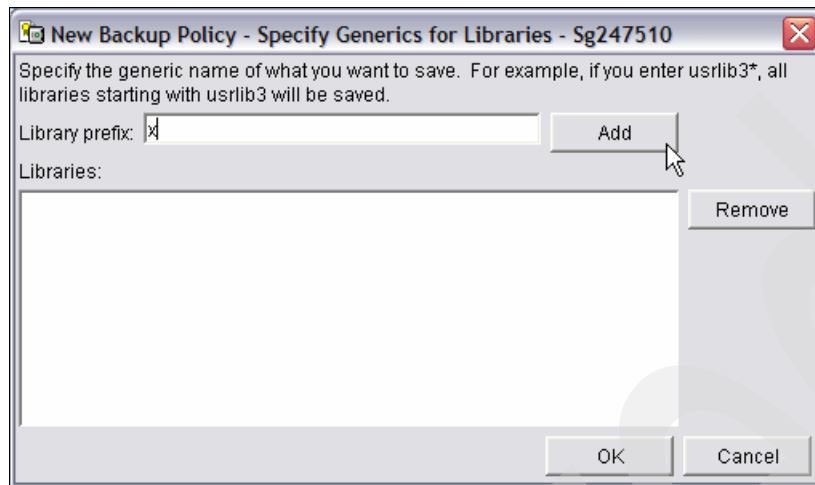

Figure 6-52 New Backup Policy - Specify Generics for Libraries
10. This opens the Specify Generics for Libraries window shown in Figure 6-52.